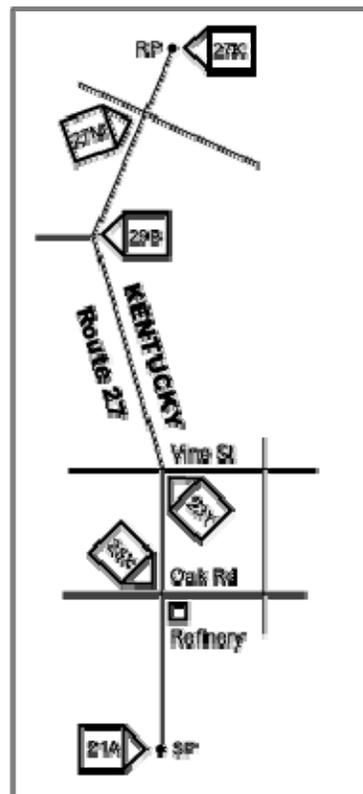

Figure 3-6. Convoy Strip Map.
- c. Issue the Convoy Order. The convoy commander prepares the convoy order using the standard five-paragraph format. *See Figure 3-5.* A strip map is issued which includes SP, RP, route, checkpoints, and other control measures. *See Figure 3-6.*
5. **Marking. At night, first and last vehicles of the convoy are marked.** First vehicle displays a GREEN chemlite on the front hood. Last vehicle displays (2) RED chemlites on the rear bumper. Other marking are used for specific missions. *See Convoy Marking SOP for Passage of Lines. See Linkup SOP.*